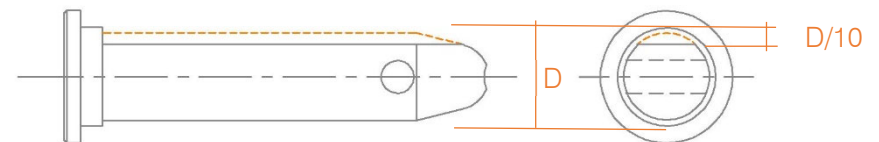

Fig. 64 - Connecting Element Reduction (Pin)
- 14.5.6 Diameter reduction of connector elements (truss pins or fixing bolt) by more than 10%. *Fig. 64 - Connecting Element Reduction (Pin)*